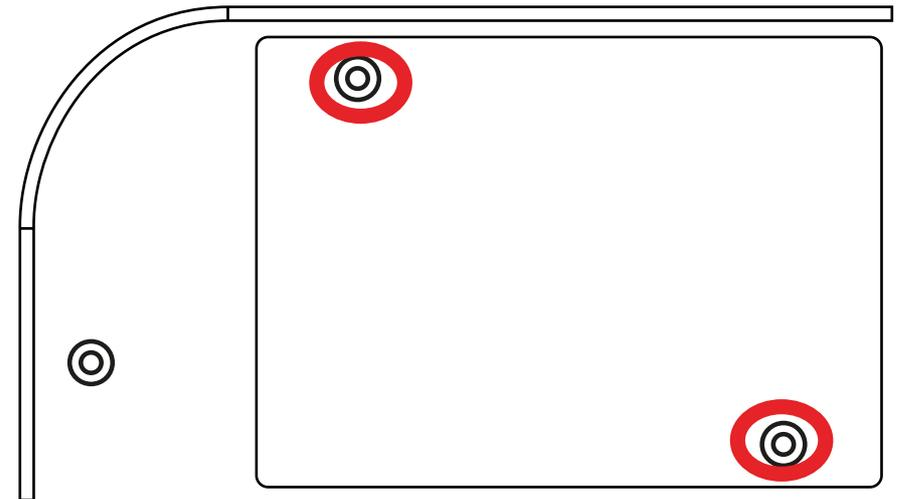

Figure 8: Removing the lifting handle cover plates
- Remove the two rectangular panels on the back of the machine (Figure 8).